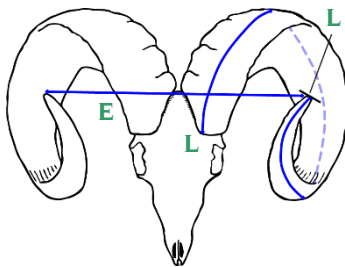
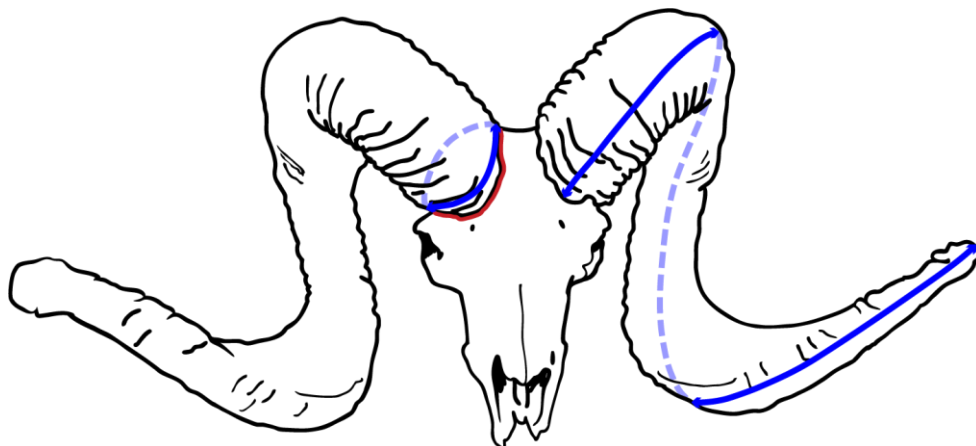
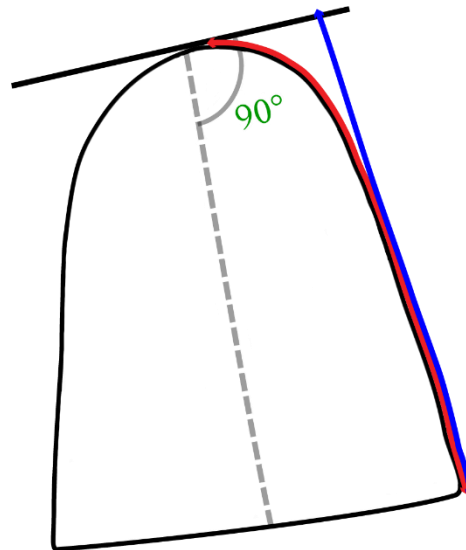

Figure 1
Figure 2
Figure 3
1. Length. Measure the length of each horn from the base to the tip (Figure 1, L-L and Figure 2). Many sheep have horns that have a flat frontal surface that extends from the base all the way to the tip. Place the 90-degree hook (found on the end of the steel tape) around the lowest point at the base and then follow the center of the ridge throughout the curve of the horn to the tip. End the measurement to a point that is in line with the end of the tip but do not curve the tape to get to the center of the tip. Card the horn off and measure up to the farthest protruding point of the horn in a straight line. (Figure 3)